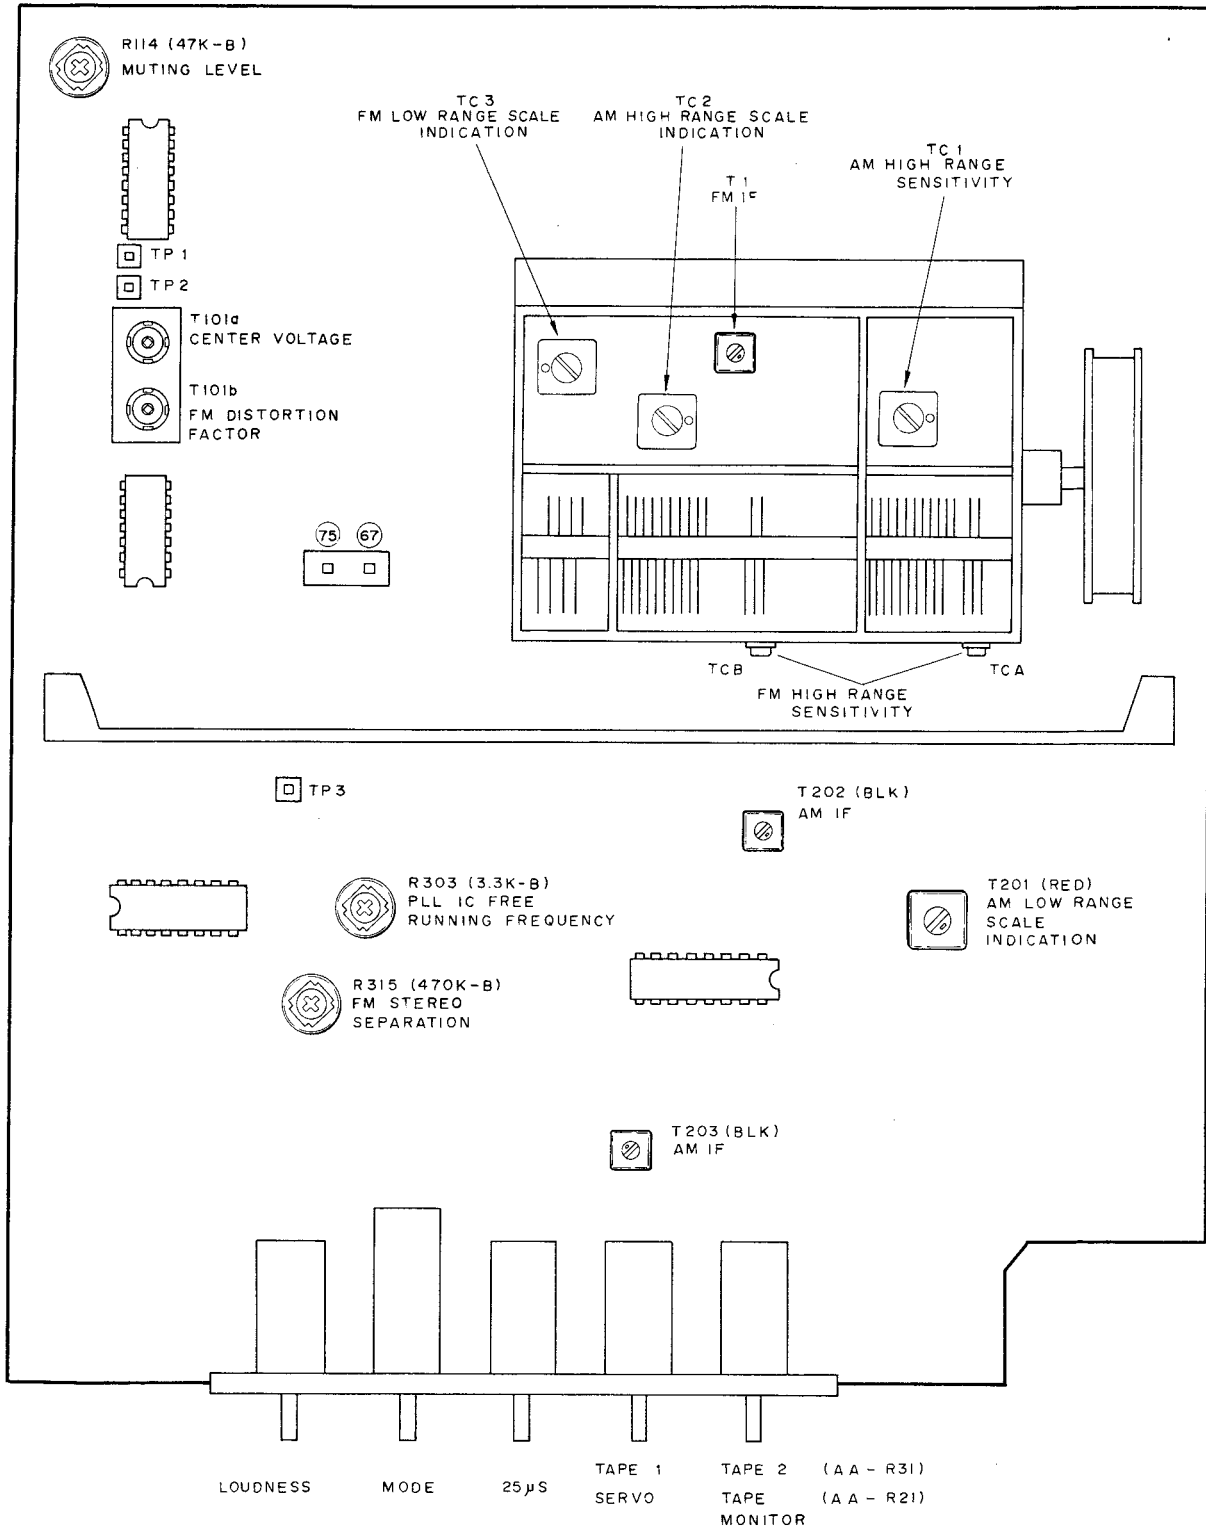

Fig. 11 Tuner-EQ P.C Board 461296A (AA-R21), 461296B (AA-R31)
1. FM SECTION ADJUSTMENTS (Refer to Figs. 11, 12, 13)
Unless otherwise specified, use the adjustment points provided on the Tuner-EQ P.C Board (Fig. 11).
2. AM SECTION ADJUSTMENTS (Refer to Figs. 11, 13, 14, 15)
Unless otherwise specified, use the adjustment points provided on the Tuner-EQ P.C Board (Fig. 11)